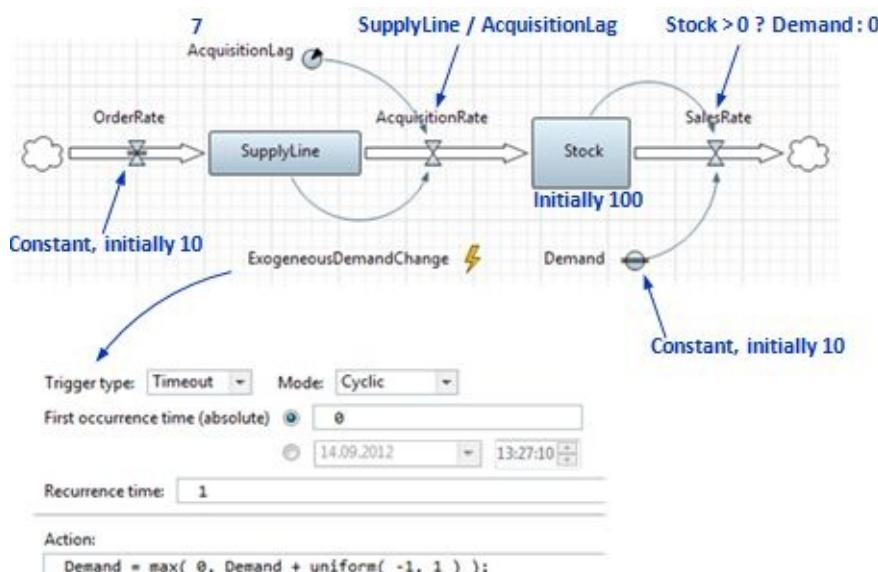

Figure 5.33 The stock management model without the controlling feedback
6. Drag a **Slider** from the **Controls** palette and link it to the *OrderRate* variable. Set the slider range to 0..50, see Figure 5.33.